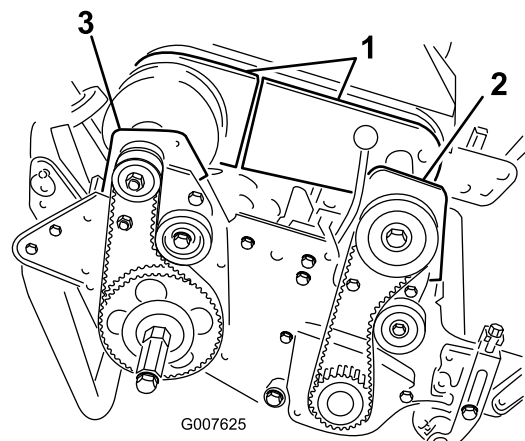

Figure 40
4. Remove the bolts securing the front and rear sections of the differential cover to the differential housing and slide the cover sections away to expose the belt (Figure 40).
6. Remove the 2 bolts and locknuts securing the front clutch housing to the side plate (Figure 40).
8. Remove the 2 bolts and locknuts securing the right rear bearing housing to the side plate (Figure 40).